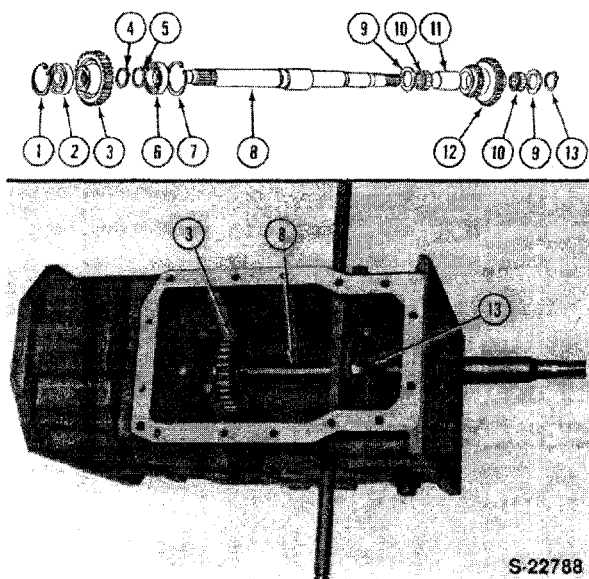

Figure 24
Reference — Figure 24
1. If equipped with FWD, remove the snap ring (13) and remove the thrust washers, gear set, needle bearings and spacer (9-10-11 and 12), Figure 24.
2. Remove the snap ring (7) from the rear side of the center bearing bore, Figure 24.
4. Remove the bearing (2) and gear (3) from the shaft, Figure 24.